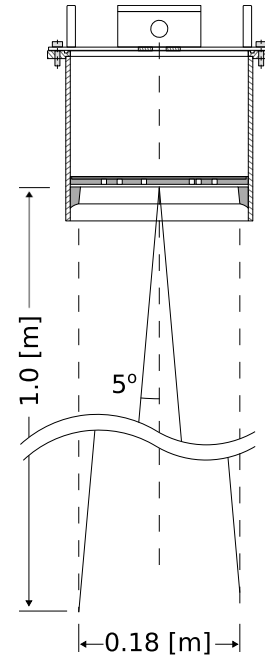
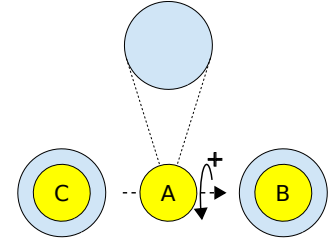

Figure 1.1: The 5° [deg] half top angle of the F08 antenna beam.
Figure 1.7: Top view of the three radars labeled A, B and C.
- It is advised to choose a mounting position such that the WaveGuide radar beam is free of large reflecting obstacles (the beam of the F08 antenna can be approximated to a conical shape having a 5° [deg] half top angle as shown in Fig. 1.1). The minimum horizontal distance between a radar and any obstacle in the beam's path should be at least 10% of the vertical distance between the radar and the obstacle. This does not only include horizontal objects in the beam's path but also vertical structures.
In some cases it can be decided to mount the three radars in line with each other, for example when mounting them to the railing of an offshore platform. This installation is called a line array. In this case the central radar needs to be tilted to obtain a triangular reflection footprint, which is illustrated in Fig. 1.7. In a line array, the tilting definitions (Fig. 1.1) require that radar A is positioned between radar B and C. This allows tilting radar A away from the line B-C and by doing so forming a triangle with the radar foot prints on the water surface. The direction of the radar tilt angle is defined with the right hand rule as shown in Fig. 1.7. It is advised to select non-tilted radar B or C as the "heave source", which is the source of data for calculating the non-directional wave parameters.